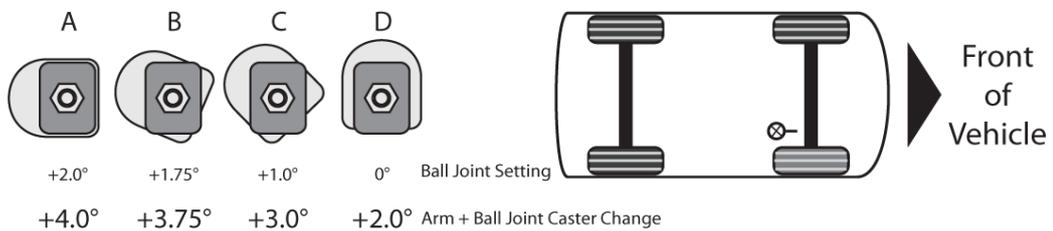

Figure 02 – Caster Settings
7. Install the star plate over the hex on the ball joint per the chart below to achieve the desired caster change relative to the stock arm. (For most vehicles with 2" of lift, it is recommended initially to set the ball-joint in the position "A" (Figure 02) for max. caster change and make necessary adjustments using different positions on each side, if needed, to achieve desired cross-caster setting.) Insert the ball joint up through the bottom of the arm, indexing the star plate in the machined slot, and then install the top washer and nut. Position in full negative camber position of the slot and tighten nut for initial alignment readings;